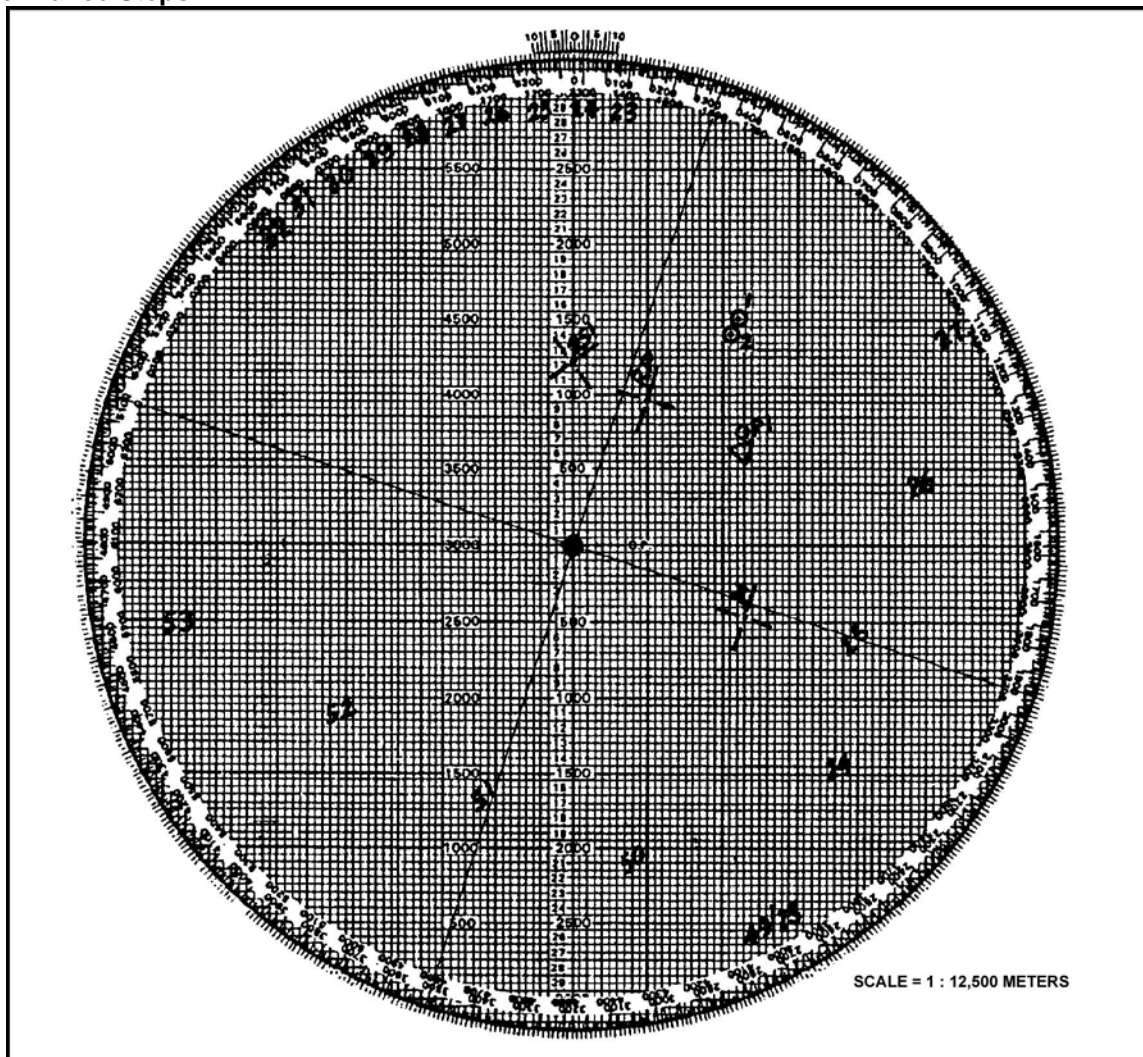

Figure 4. Plotting Corrections
5. Upon receiving the FO's correction (Figure 3), the computer indexes the FO's direction and makes the correction from the No. 1 plot (Figure 4). He makes corrections, as they are received, from the preceding plot.